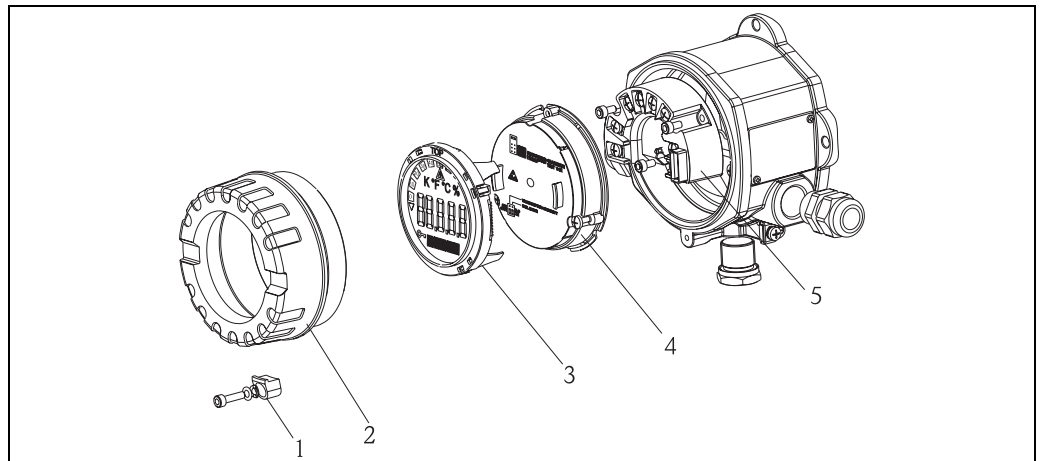

Fig. 3: Turning the display
1. Remove the cover clamp (see Fig. 3, item 1).
2. Remove the device cover (see Fig. 3, item 2).
3. Remove the display from the electronics module (see Fig. 3, item 3).
4. Open the 2 screws of the electronics unit and remove the electronics unit (see Fig. 3, item 4).
5. Open the cable gland at the device (see Fig. 3, item 5).